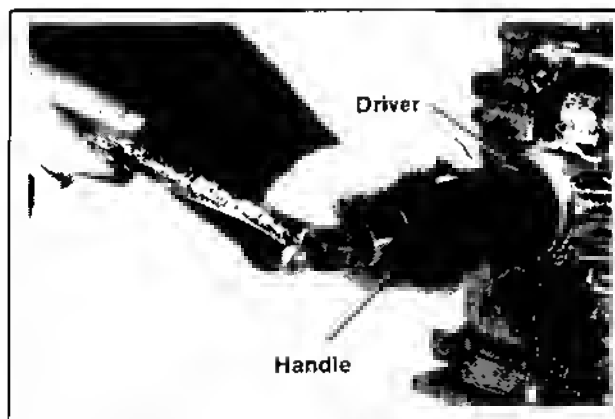

Figure 11-24. Installing Oil Seal Using Driver.
2. Using the #11795 handle and appropriate seal driver, install the front oil seal to a depth of  $\frac{1}{32}$ " ( $+\frac{3}{64}$ ";  $-\frac{1}{64}$ "). Refer to Figure 11-24.
6. Using the #11795 handle and appropriate seal driver, install the rear oil seal to a depth of 5/32" (+3/64"; -1/64"). Refer to Figure 11-24.